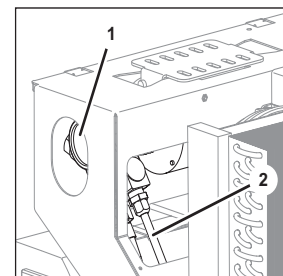

Fig. 46
1. Disconnect the water outlet line (Fig. 46/2) by releasing the coupling from the carbonator pump (Fig. 46/1).
12. Connect the water outlet line (Fig. 46/2) to the carbonator pump (Fig. 46/1) with the assistance of the coupling.